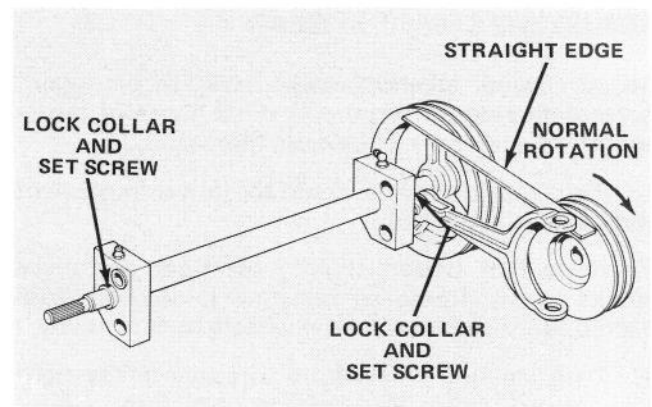

Figure 62
3. Loosen set screws in lock collars at front and back of PTO pivot shaft (Fig. 62). Using a punch and hammer, loosen collars by driving them opposite the direction of normal shaft rotation. The PTO shaft and PTO pulley assembly should now be free to slide.
pulley, with top of PTO pulley (Fig. 62). When top of pulleys are aligned, bottom of pulleys are misaligned by 3°. Move PTO pulley until it is in line with the engine pulley. Then lock the pivot shaft and pulley in place by tightening the lock collars in the normal direction of shaft rotation (Fig. 62). Check alignment of pulleys again to assure alignment did not change when collars were tightened. If alignment is still correct, tighten lock collar set screws.